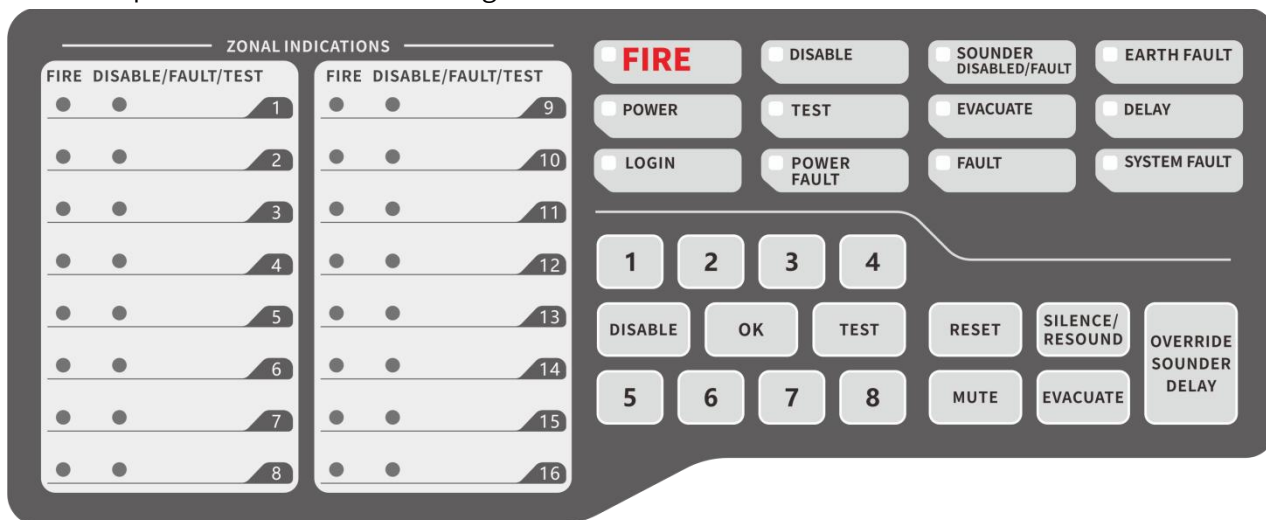

Figure 1
(1) The front panel of the FACP is as in Figure 1